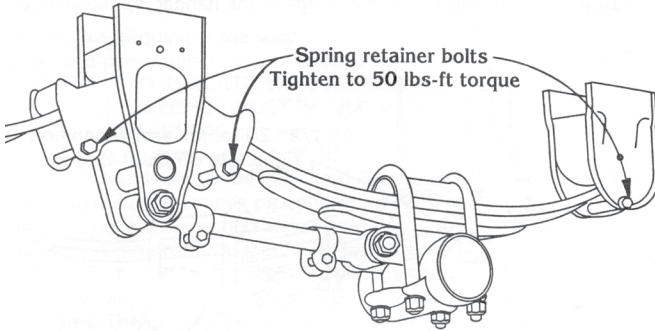

Figure 37
- Carefully inspect the hangers and the hanger wear pads and replace if wearing thin. (Figure 37)